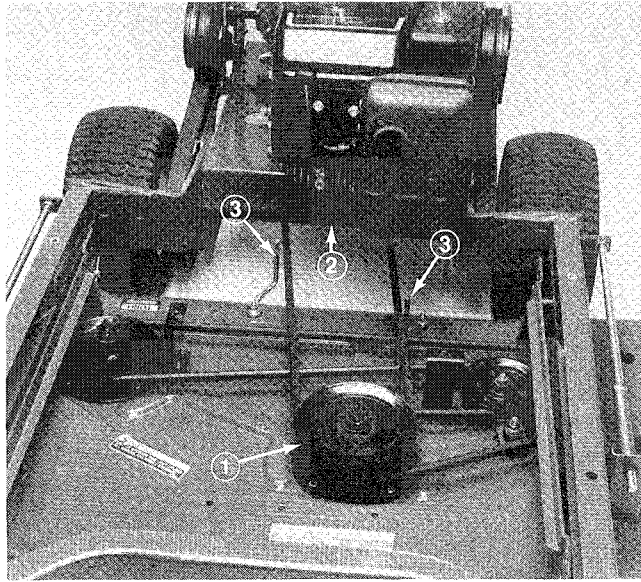

Figure 3
1. Route belt around deck drive pulley and engine clutch pulley (Fig. 3).
6. Check position of belt guides. Guides should be positioned so rod edge is approximately .10 inch from back side of belts (Fig. 3).